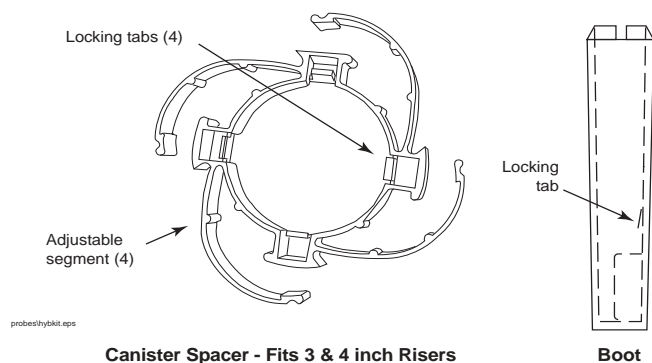
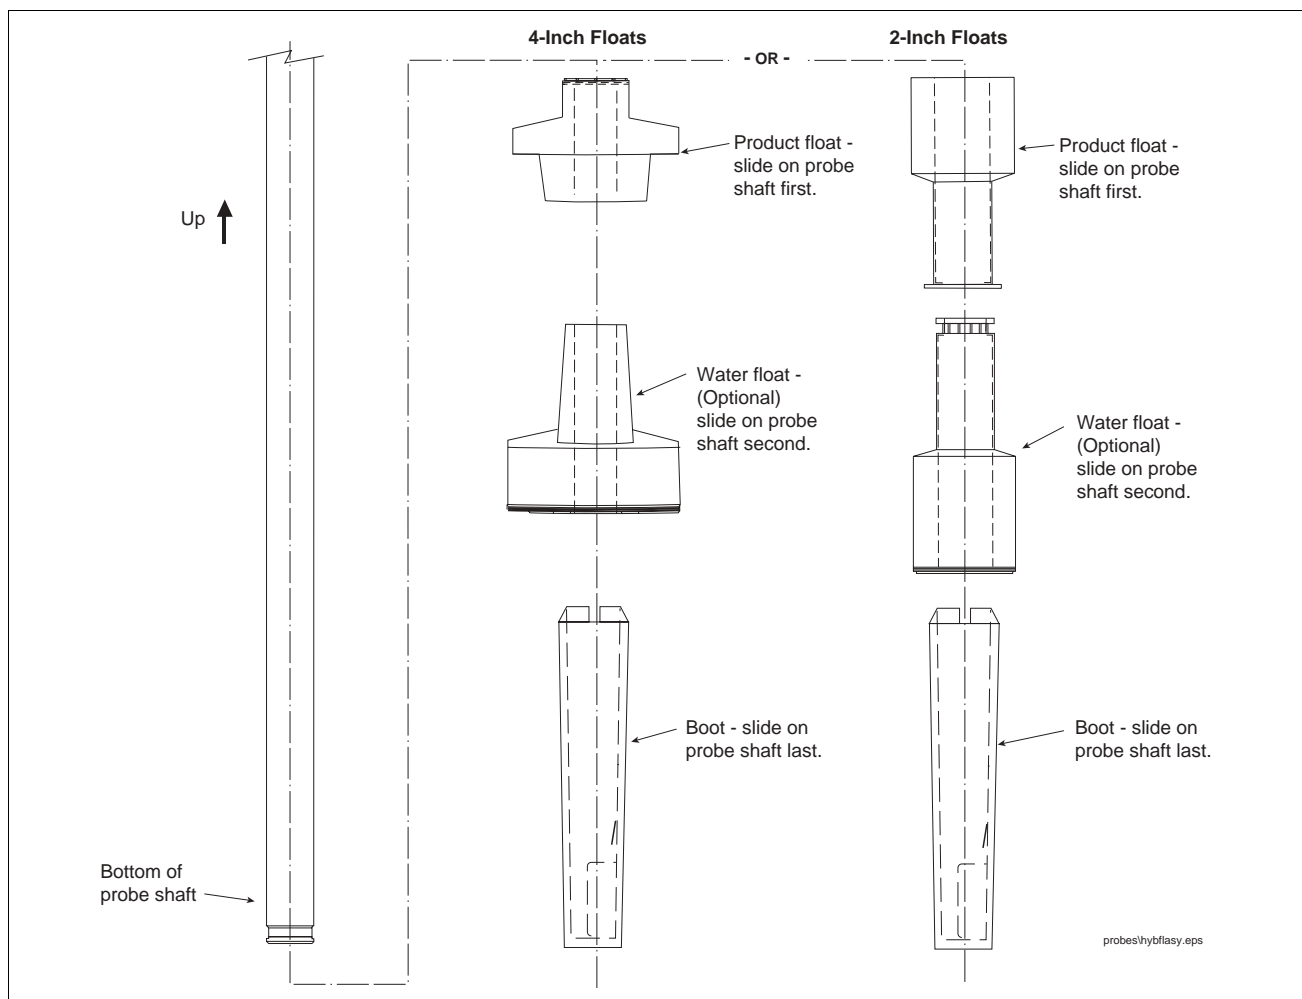

Figure 1. Canister spacer and boot from the installation kit
Figure 3. Probe float installation
1. Open the installation kit and remove the two canister spacers (see Figure 1).
5. Remove the boot from the old probe and discard it. Note that the new and old boots look alike but are **NOT** interchangeable. Remove the product float and water float (if present) from the old probe. Slide the existing float(s) and the **NEW BOOT** from the installation kit (see Figure 1) onto the Mag Retrofit probe shaft in the exact sequence shown in Figure 3.